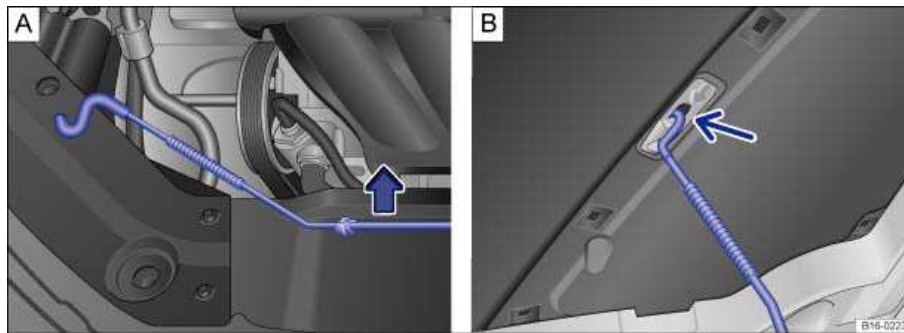

Fig. 142 A: In the engine compartment: Bracket for hood support. B: Hood propped open.
- Pull the hood support out of its bracket in the direction of the arrow ⇒ fig. 142 A and insert it into the opening in the hood B (arrow).